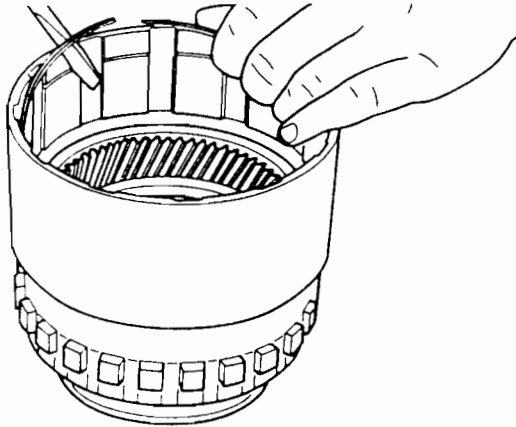
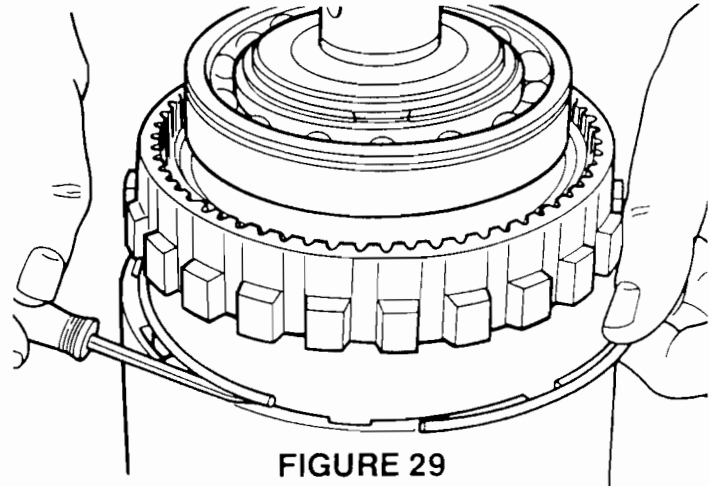

FIGURE 28
FIGURE 29
18. Two wire retaining rings secure the direct clutch drum to the annulus. Remove the inner one first (Figure 28), then the one behind the rear of the drum (Figure 29). Now slide the drum from the annulus.